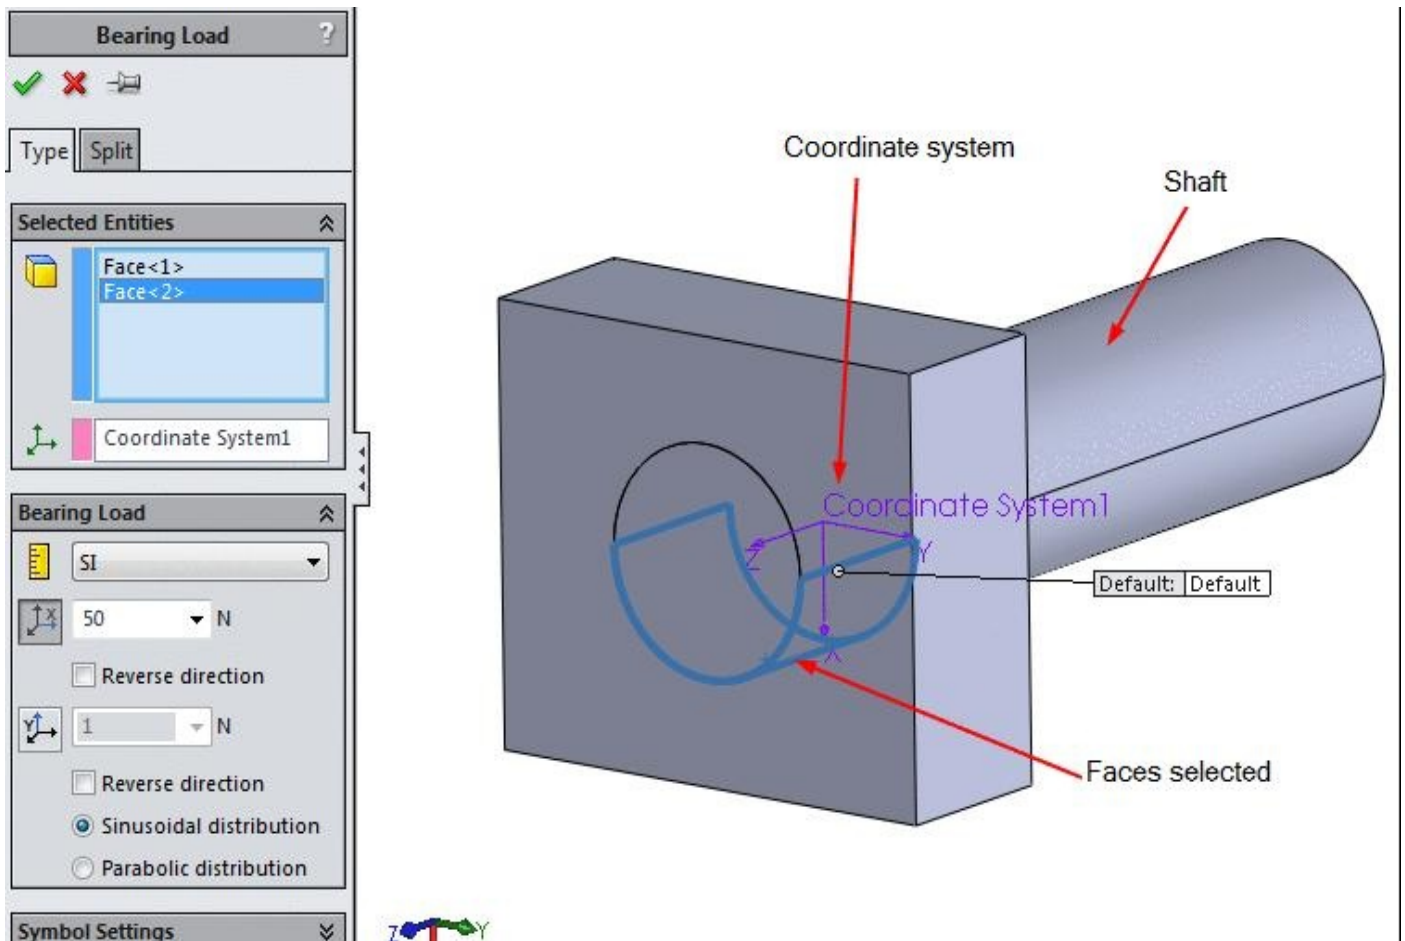

Figure-49. Example for bearing load
- Select the faces on which you want to apply the bearing load. Note that you need to select two faces, one from shaft and one from bearing. Also, the selected faces must be half of the full face; refer to Figure-49. Note that you will need the **Split Line** tool to divide the face of bearing and shaft.